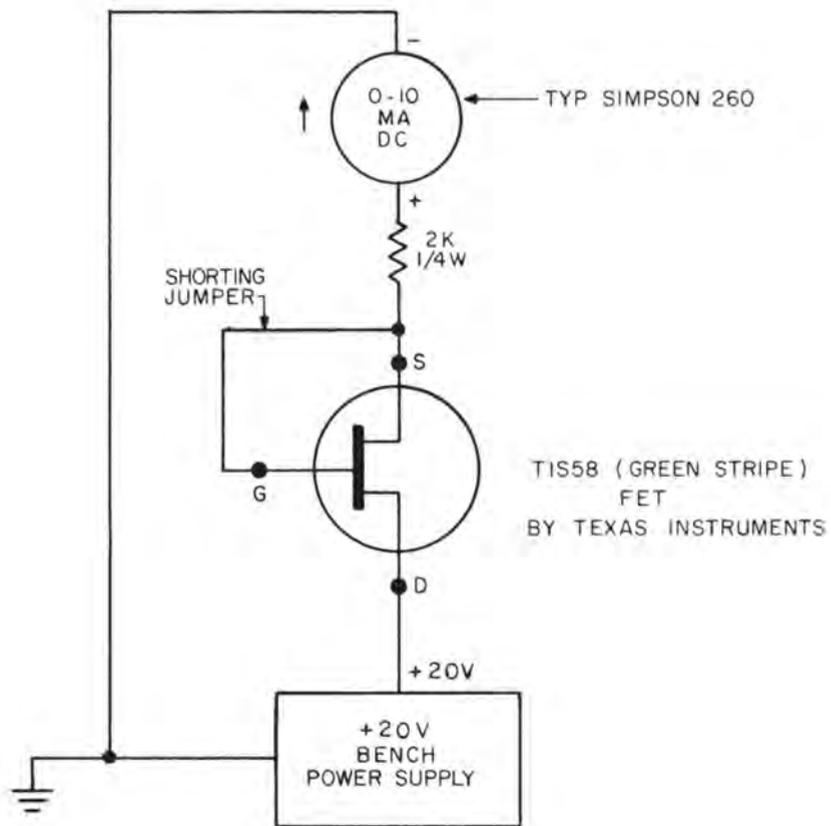

Figure 5-2. I_{dss} Bench Test Circuit for T1S58 (Grn Stripe)
1. Before inserting the replacement transistor, measure its source-to-drain current, I_{dss} , in a bench test circuit as shown in figure 5-2.